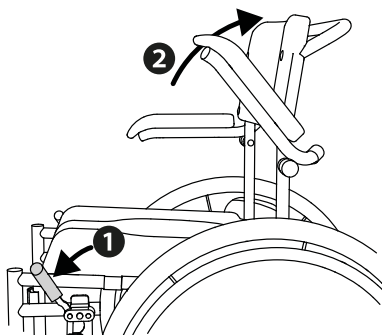

Fig.13
1. First, engage the parking brakes (1, Fig. 13).
2. To make it easier to sit down or get up, the armrests can easily be folded back (2, Fig. 13).